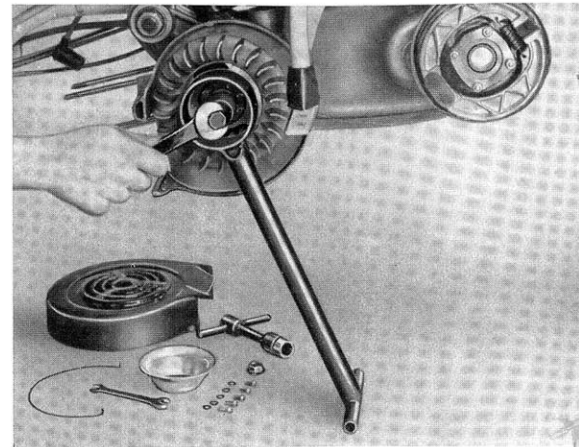

Fig. 17
- 30 To remove flywheel: lock flywheel with tool No. 58886, unscrew flywheel lock nut (left handed) (17mm box spanner - Tool No. 52150) and withdraw flywheel by means of extractor No. 37058. (See Fig. 17).